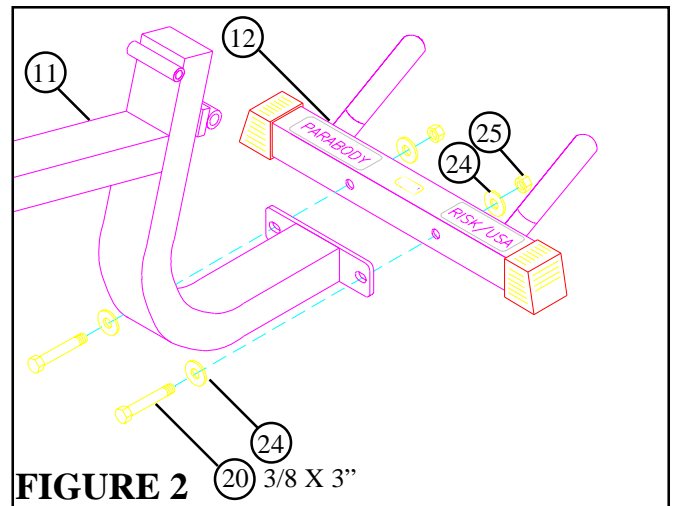

FIGURE 2 3/8 X 3"
STEP 3: Securely assemble REAR BASE LEG (12) to LEG FRAME (11) using two 3/8 X 3" BOLTS (20), four 3/8" FLAT WASHERS (24), and two 3/8" NYLOCK NUTS (25). See FIGURE 2.